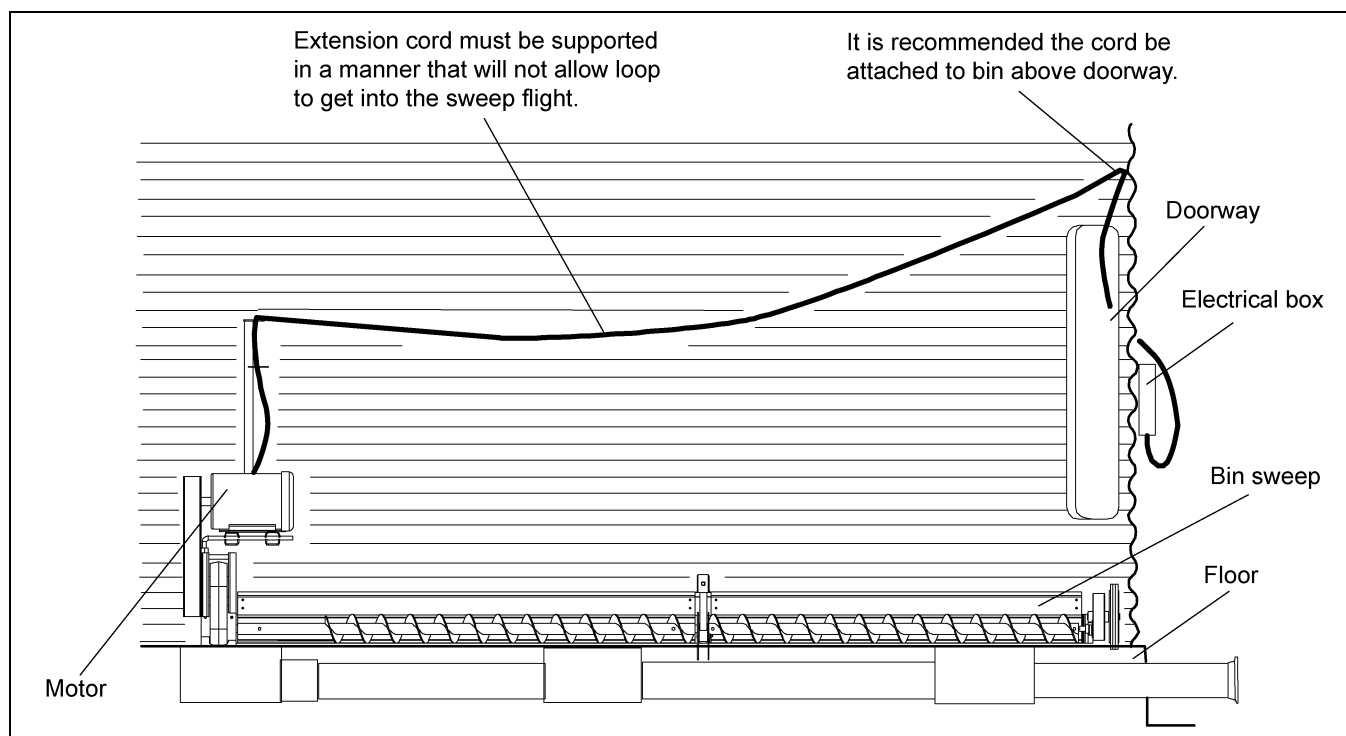

Figure 5F
5. Attach suitable electric wiring to the motor in a manner that will permit the sweep to rotate several times about the bin. The motor starting controls must be located outside of the bin. They must never be installed on the sweep auger inside the bin. Locate the motor starting controls outside the bin, but near the door so the operator has full view of the operation inside the bin. (See Figure 5F.)